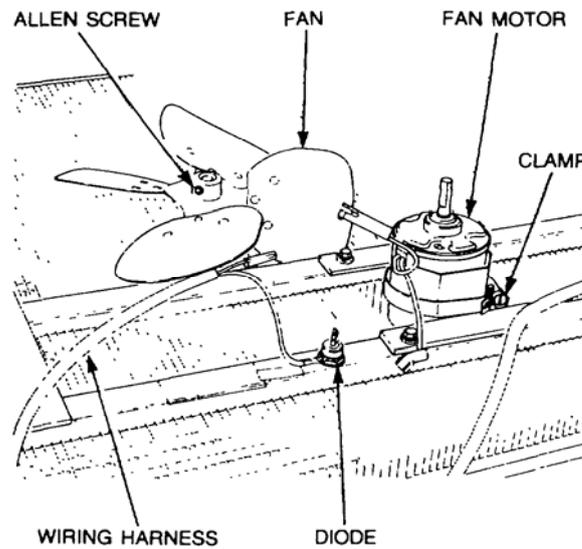

Figure 46 Condenser Motor Fan Removal
- g. Remove the fan and place it to one side (refer Figure 46).